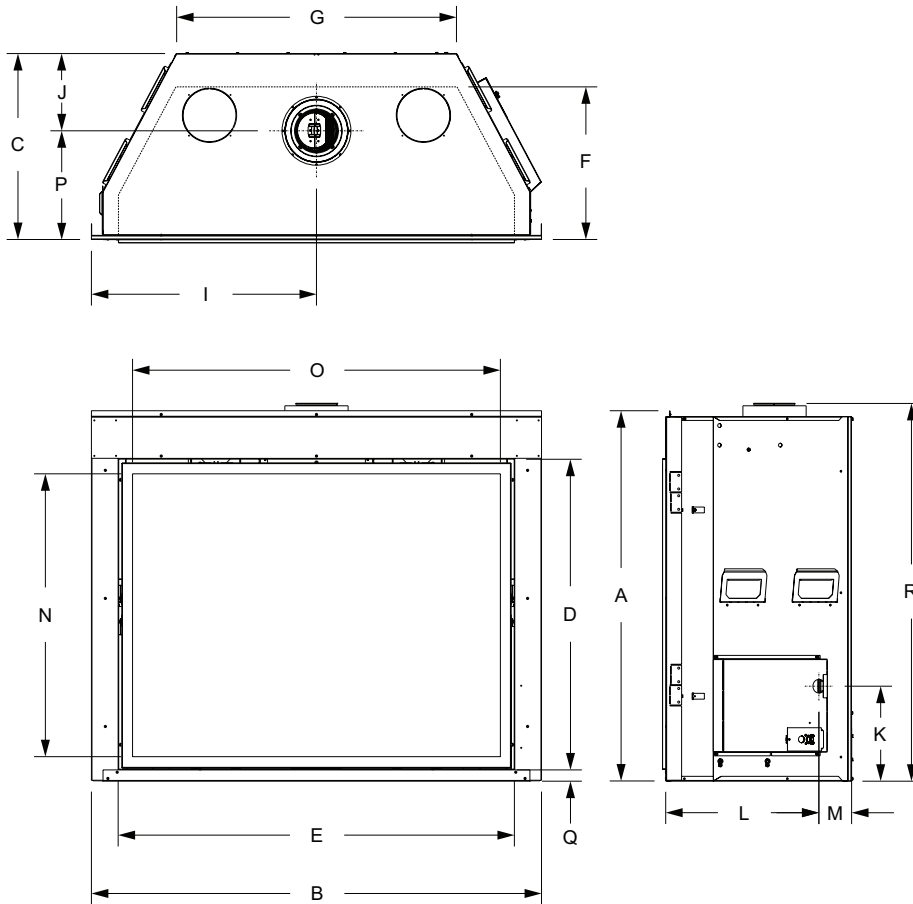

Figure 1
5. Replace Blower Access Panels removed in step 1. See Figure 1.